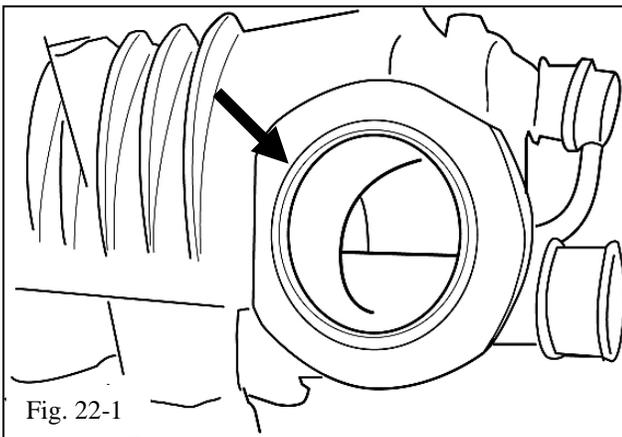

Fig. 22-1
- (a) Install the supplied throttle body O-ring (Item J2) in the groove on the nose of the supercharger housing (Fig. 22-1).